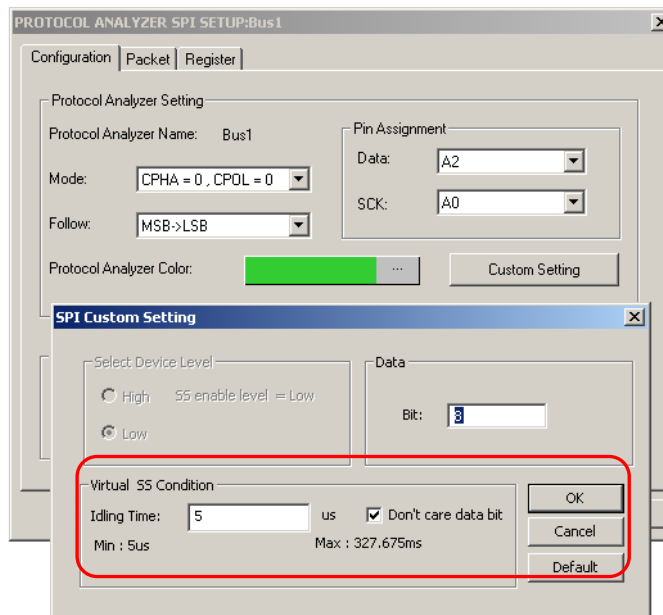

Fig 4-84– Virtual SS Condition Setting
Click the **Custom Setting**, then the dialog box of the SPI Custom Setting will appear as shown in Fig 4-84.
(4) Type the idling time of the SCK signal on the tested SPI circuit. The idling time is defined as the idling time as shown in Fig 4-84.